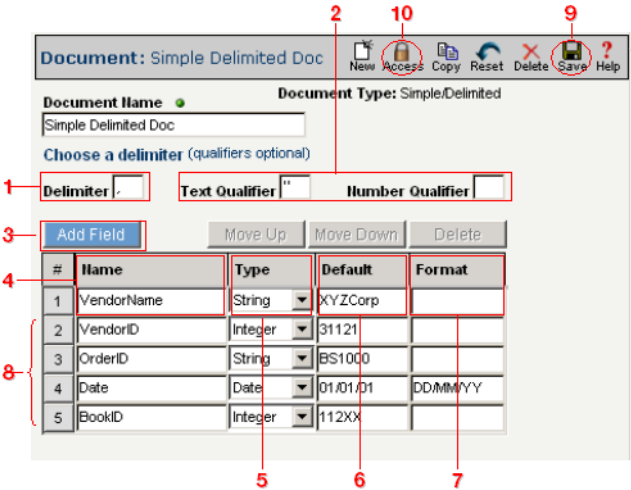

Figure 9-3. Follow the steps listed above to define a new delimited text definition.
- 9 Click the **Save** button in the toolbar. Compare your definition to that shown in Figure 9-3 below.